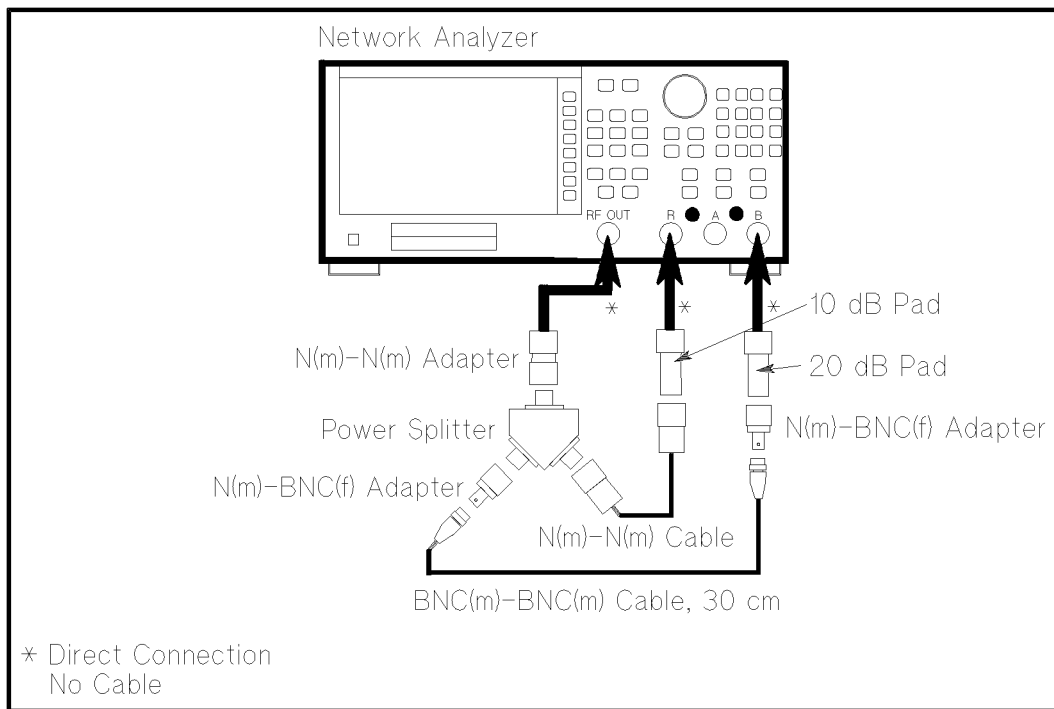

Figure 5-1. Adjustment Setup 1
2. Connect the equipment as shown in Figure 5-1.